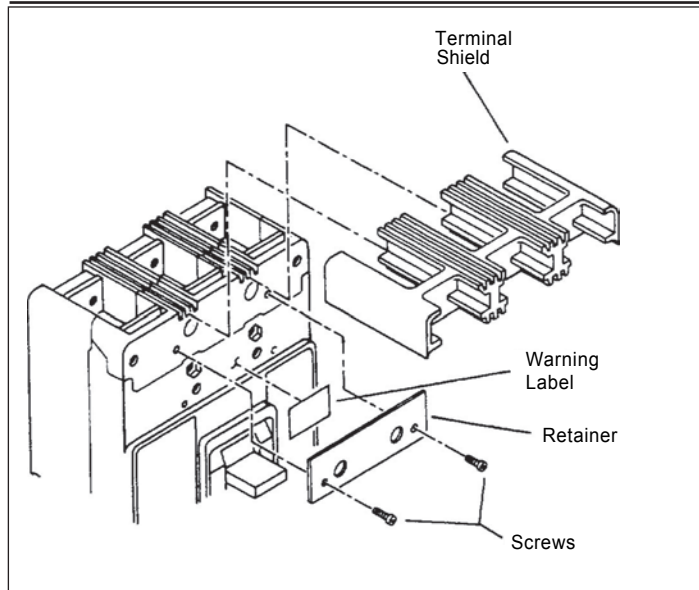

Figure 9. Installation of Terminal Shields and Warning Label.
- 2-10. When step-type terminals (Cat. No. TA603LD) are used, terminal shields (supplied with terminals) must be installed on the circuit breaker (**Figure 9**) and secured using retainer and screws included with the terminal shield kit. Warning label supplied with the kit must be attached to the circuit breaker cover.